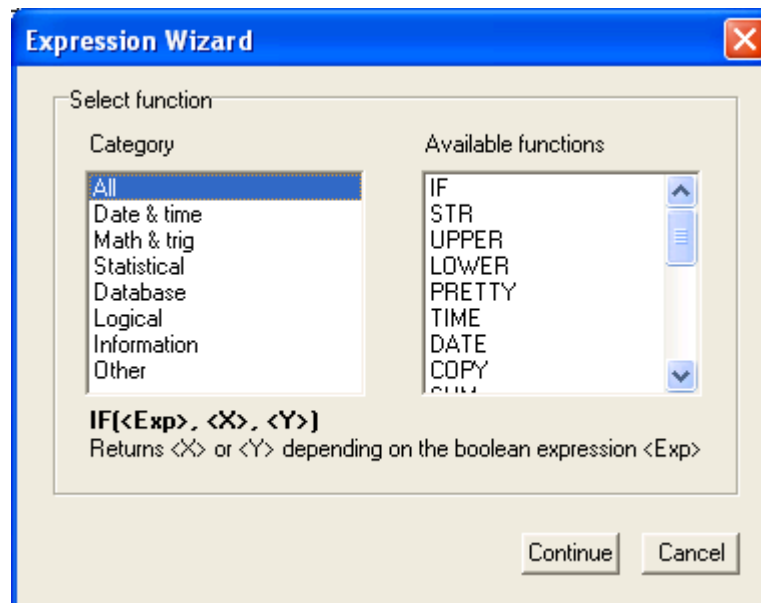

Figure 48 - Select Function Window
10. Click on the **Function** button to go to the **Select function** (Figure 48) window. After selecting the required function, click on the **Continue** button to close the **Select function** window and return to the **Expression Wizard**.